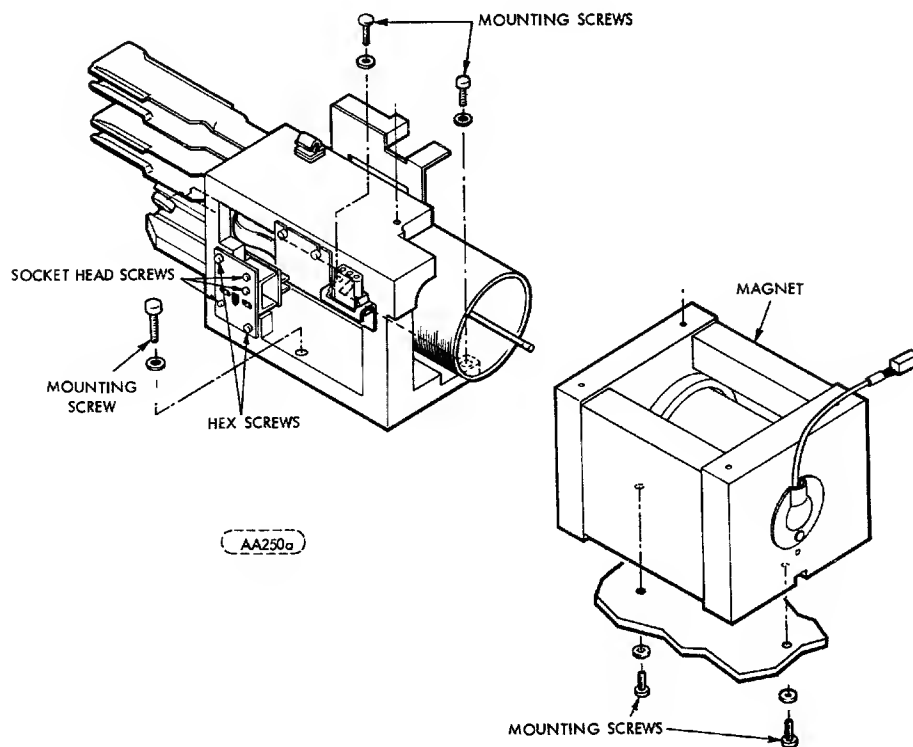

FIGURE 6-3. ACTUATOR, MAGNET AND EOT MOUNTING
13. Remove two screws that fasten the magnet to the main deck. Screws are located underneath the base casting, one screw in back of magnet and one in front (see Figure 6-3).
19. Using 9/64 ball Allen driver, remove the three mounting bolts from the actuator frame securing the actuator to the deck (see Figure 6-3).
2. Using 9/64 ball Allen drive, install the three mounting bolts securing the actuator to the disk (see Figure 6-3).
7. Fasten magnet to the main deck with the two mounting screws (see Figure 6-3).
7. On EOT assembly bracket remove top and bottom mounting hex screws (see Figure 6-3).